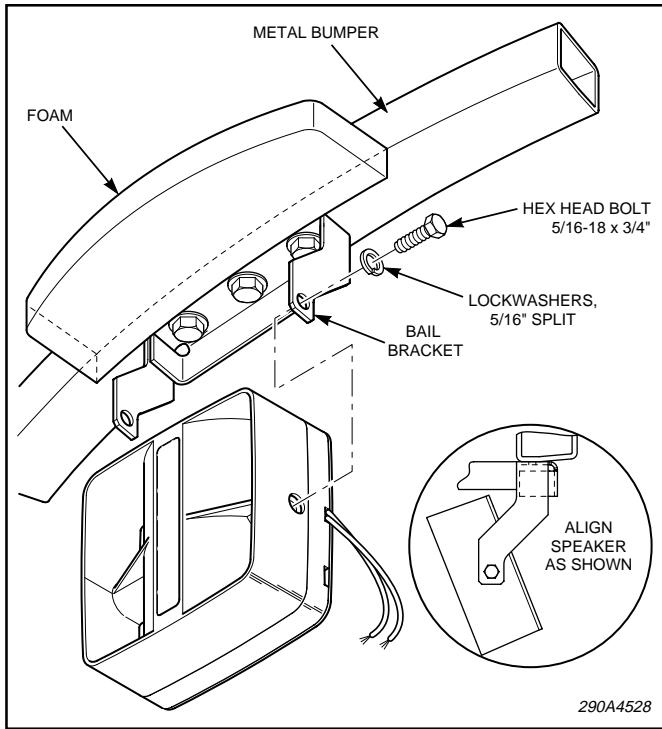

Figure 3.
5. Mount the speaker to the bracket using two 5/16-18 bolts and split lockwashers. Adjust the speaker so the speaker is aligned as shown in figure 3.